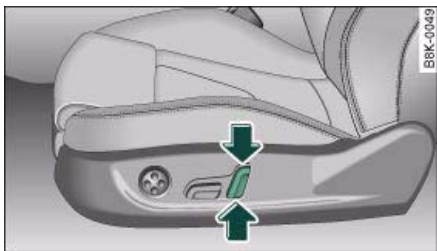

Fig. 79 Front seat: Adjusting head restraint (electric adjustment*)
- Press the switch → fig. 79 up or down to move the head restraint to the desired height.